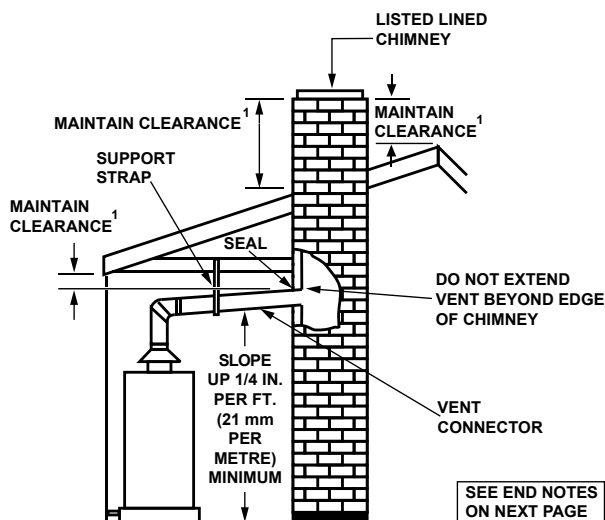

FIGURE 10.
- The connector must not extend beyond the inner edge of the chimney as it may restrict the space between it and the opposite wall of the chimney (Figure 10).